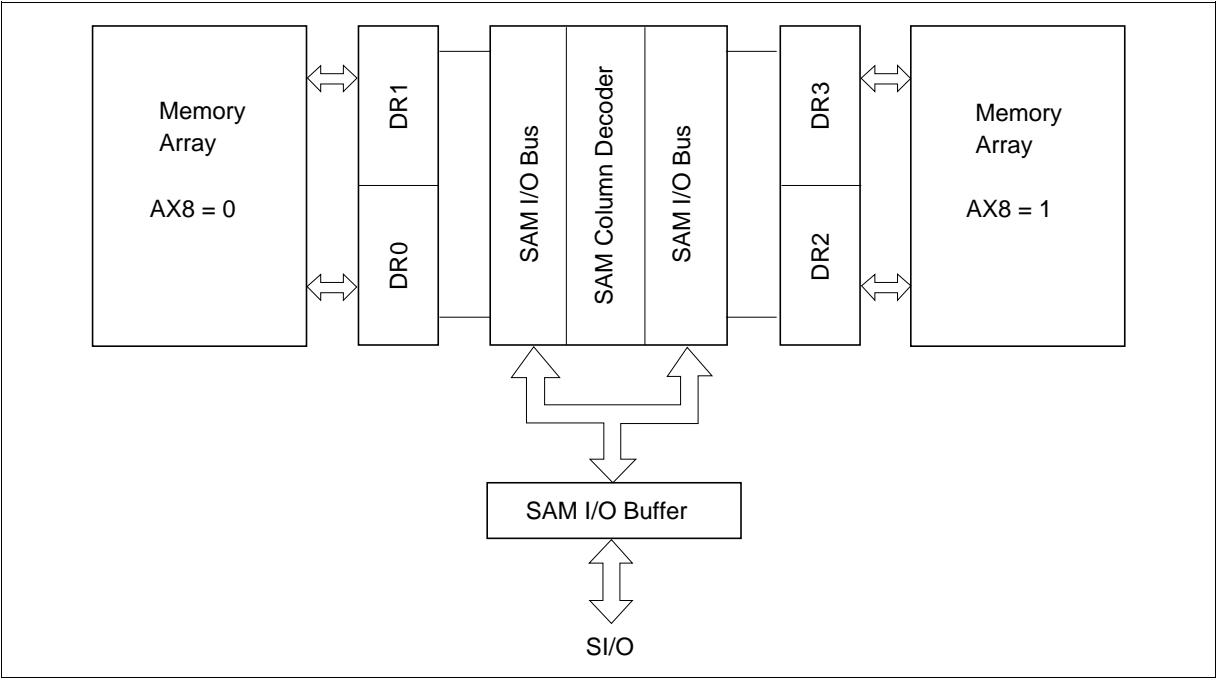

Figure 5 Split Transfer Block Diagram
Figure 5 shows the block diagram for the normal split register operation. SAMdata register (DR) consists of 2 split buffers, whose organizations are 256-word \times 8-bit each. Suppose that data is read from upper data register DR1. (The row address AX8 is 0 and SAM address A8 is 1.) When split read transfer is executed setting row address AX8 to 0 and SAM start addresses A0 to A7, 256-word \times 8-bit data is transferred from RAM to the lower data register DR0 (SAM address A8 is 0) automatically. After data is read from data register DR1, data read begins from SAM start addresses of data register DR0. If the next split read transfer isn't executed while data is read from data register DR0, data read begins from SAM start address 0 of DR1